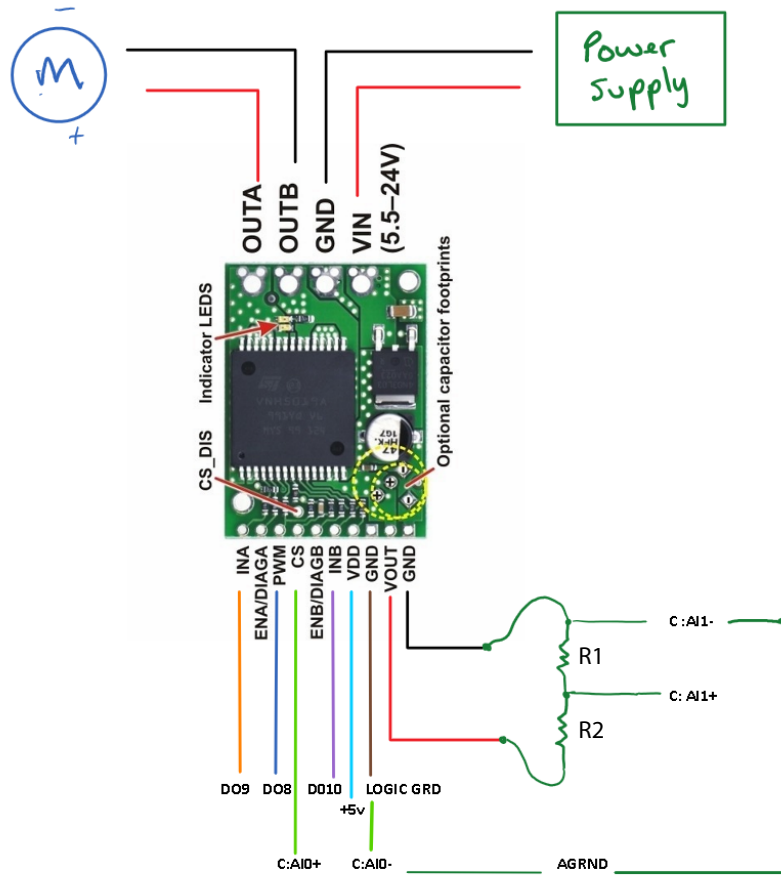

Figure 08.7: the motor driver with labeled pinout connections to the myRIO, power supply, and motor. The motor driver pinout is from pololu.com.
- 3. one ECL apparatus (see Figure 08.1) with encoder and most motor driver connections pre-connected as in Figure 08.7, *except C-channel connections*, which are left for the students;
- 4. Use Figure 08.7 to make the remaining connections of the motor driver carrier to the myRIO C-connector, with the voltage measurement across R_1 .